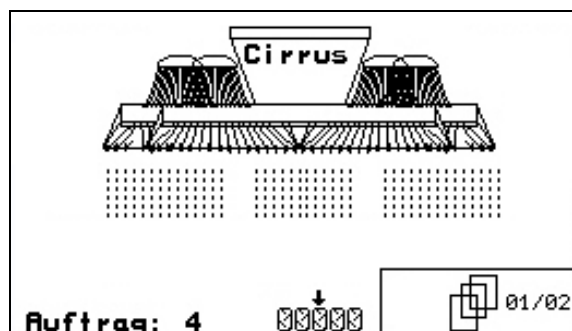

Fig. 57
1. Preselect Headland on all four wheels (Fig. 57).